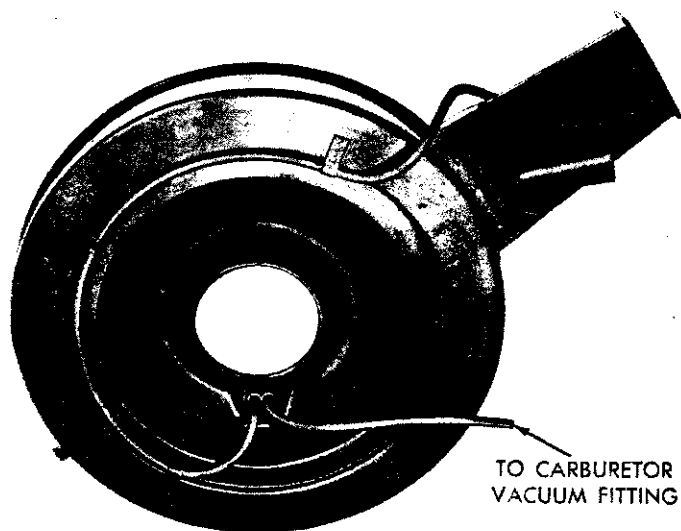

Fig. 3—Routing of Vacuum Hoses Single Snorkel Air Cleaner
- (1) Make sure all vacuum hoses (Figs. 3 and 4), and the stove to air cleaner flexible connector are properly attached and are in good condition.
- (2) With a cold engine and ambient temperature in the engine compartment of less than 100 degrees F., the heat control door (valve plate) in the snorkel should be in the **up position** or **heat on position**.
- (3) With the engine warmed up and running, check the air temperature entering the snorkel or at the sensor. When the air temperature entering the outer end of snorkel is 105 degrees F. or higher the door should be in the **down position** (**heat off**).
- (4) Remove the air cleaner from the engine and allow it to cool down to 90 to 95 degrees F. With 20" Hg vacuum applied to the sensor the door should be in the **up position** (**heat on position**). Should the door not rise to the heat on position, check the vacuum diaphragm for proper operation.
- (5) Check the vacuum diaphragm by applying vacuum directly to the vacuum diaphragm (with Tool C-3707 and vacuum pump C-4081) with a vacuum gauge in the line and a bleed valve to control the vacuum